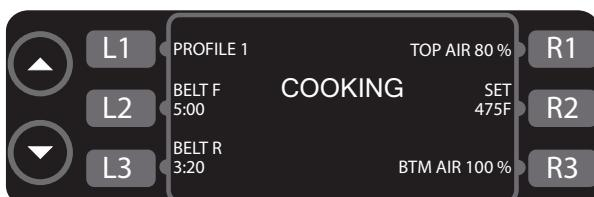
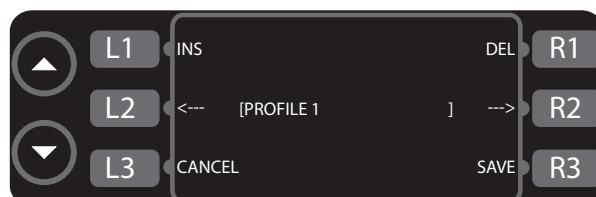

Figure 10: Cooking Screen
Figure 11: Name Change Screen
When the rigid option is enabled for a given setting, the soft key adjacent to that setting (Figure 10) is disabled and no menu editing is allowed.
1. From the cooking screen (Figure 10), press L1 to access the name change screen (Figure 11).
1. From Figure 10, press the soft key adjacent to the conveyor belt you wish to adjust (press L2 for the front belt [Belt F] or L3 for the rear belt [Belt R]).
1. Press R2 (Figure 10) to access the temperature controls.
1. Press R1 (Figure 10) to access the top air controls, or R3 to access the bottom air controls.